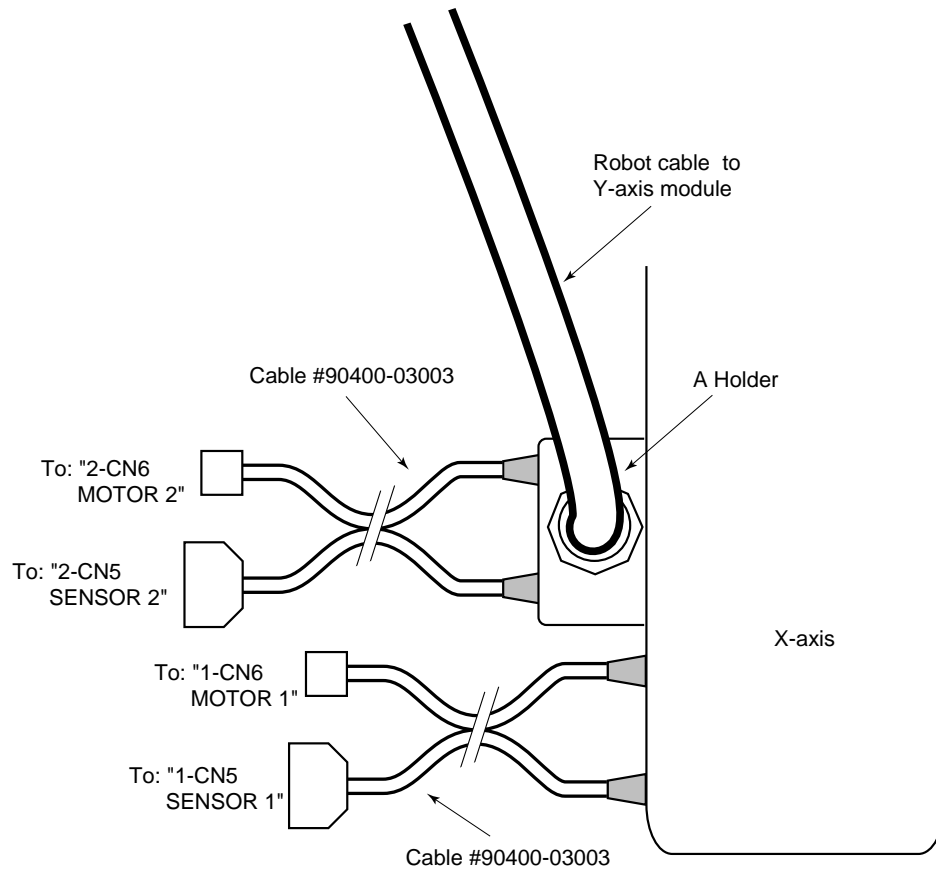

Figure 4-52. Connecting to an EXA or EXC Controller
- a. Connect the two barrel ends of the cable to the X-axis module as shown in Figure 4-52. These connectors have different pin sizes and cannot be installed incorrectly. The other ends connect to the controller connections marked “1-CN6 MOTOR 1” and “1-CN5 SENSOR 1”.
- b. Attach the A holder end of the robot cable to the side of the X-axis H module as shown in Figure 4-52 (refer to Section 4.3 for holder mounting).
- c. Connect the two barrel ends of the cable to the Y-axis module as shown in Figure 4-52. These connectors have different pin sizes and cannot be installed incorrectly. The other ends connect to the controller connections marked “2-CN6 MOTOR 2” and “2-CN5 SENSOR 2”.